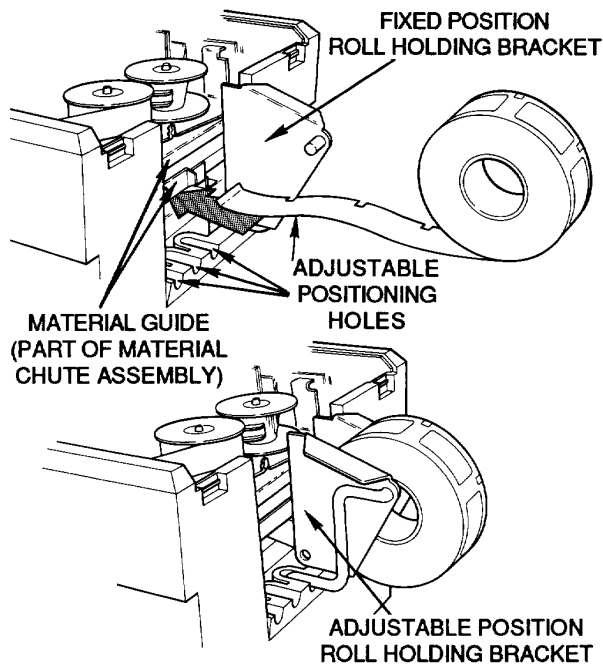

Figure 8. Loading Labels
(4) Loading Labels. The printer has a fixed position bracket on the left side and an adjustable position bracket that adjusts for 3/4, 1 1/4 or 13/4 inch side liners (Figure 8).